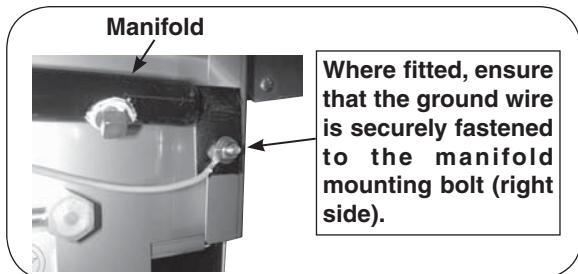

Fig. 1-4 Fasten ground wire
9. Attach all wires to poles on the generator (order not critical). Attach the ground wire, if necessary, to the manifold mounting bolt on the right side (see Fig. 1-4). Use the nut provided.